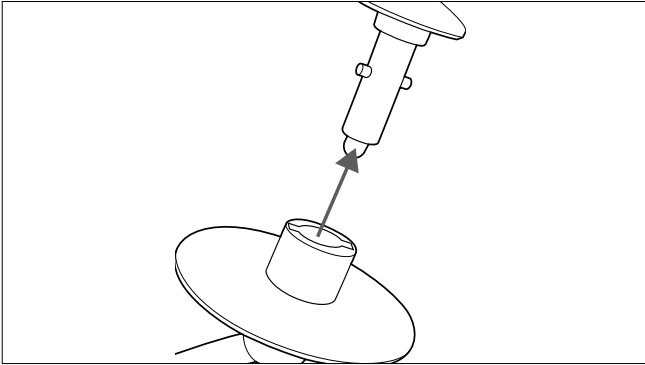

Fig. 6 – Sliding the stirrer onto the holder
- ▶ Insert the stirrer into the holder in the swivel arm from below (see Fig. 6).